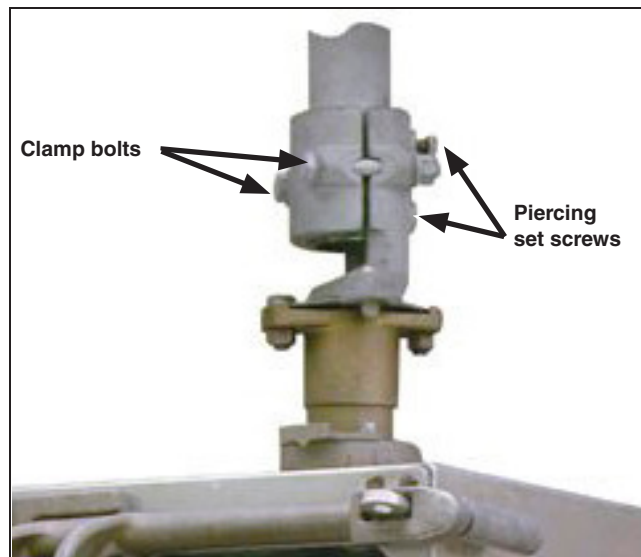

Figure 10. Tighten the clamp bolts and piercing set screws.
- Torque the flexible coupling clamp bolts equally to final tightness so the clamp pulls down evenly on the vertical-operating-pipe section. Then, tighten the associated piercing set screws, piercing the pipe, and continue turning until feeling a firm resistance. See Figure 10.